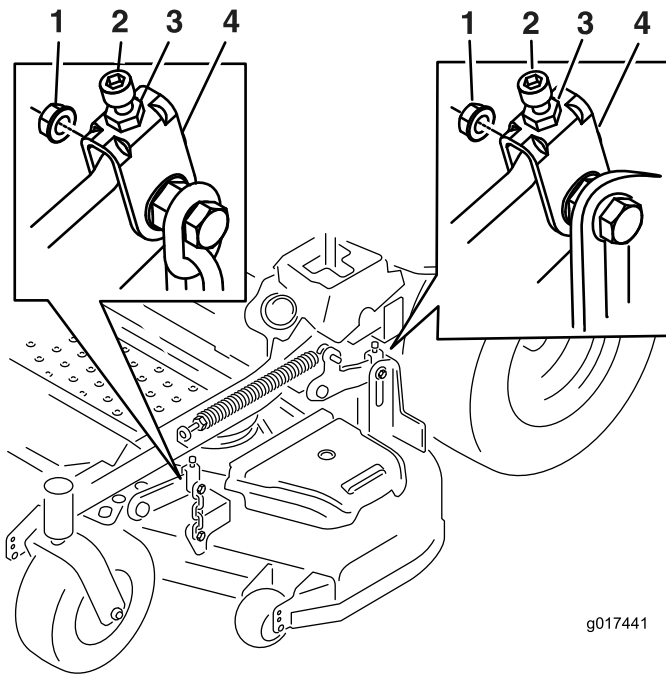

**Figure 72**
9. On both sides of the deck, measure from the level surface to the front tip of the blade (Position A). The measurement should read 3 inches (7.6 mm) (Figure 72).
15. On both sides of the deck, measure from the level surface to the back tip of the blade (Position B). The measurement should read 3 1/4 inches (8.3 cm) (Figure 72).